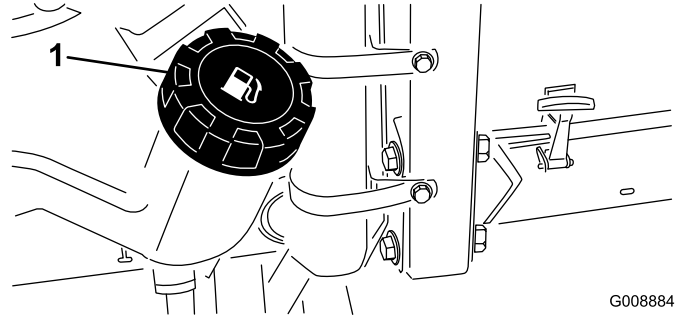

Figure 26
1. Clean the area around the fuel-tank cap (Figure 26).